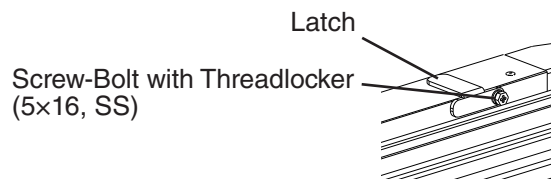

Fig. 19
- 8) Remove the door latch from the lower door. See Fig. 19.